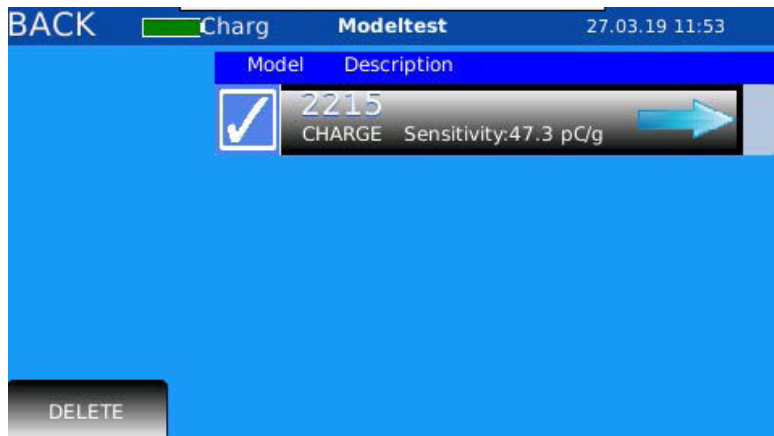

Figure 99. Select the sensor to be deleted
- 2. Select the **Delete button** in the bottom-left corner (Figure 99).